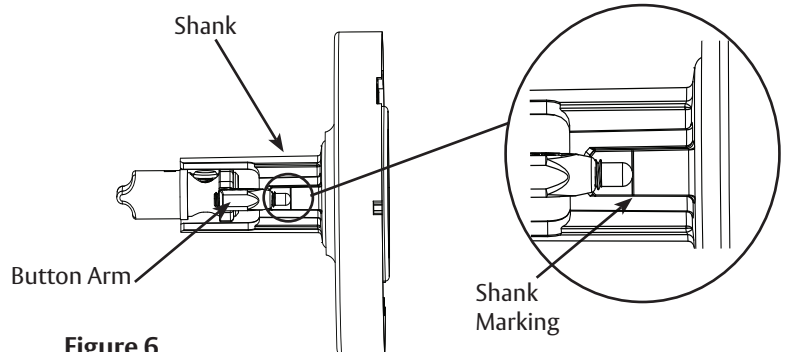

Figure 6
3. Round end of button arm should align with shank marking in the unlocked state (See Figure 6. ). Button arm is pre-set at factory. If necessary, use Allen wrench to adjust set screw to align with the shank marking. (See next page for icon alignment.).
If the icons are not entirely visible after installation, see Figure 6 on page 3 to verify the button arm is aligned with the shank marking. If necessary, adjust the screw set by turning either clockwise or counterclockwise with a 5/64" Allen wrench as shown below.